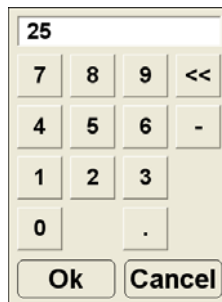

Figure 10-13. Use Keyboard to Change Offset
- Press the *Elevation set point* entry box, tap in a new offset value, and press **Ok** (Figure 10-13). A negative value is a Cut; a positive value is a Fill.
- Press the *Elevation valve gain* entry box, enter a new offset value on the numeric keyboard, and press **Ok** (Figure 10-13 on page 10-15). A negative value is a Cut; a positive value is a Fill.